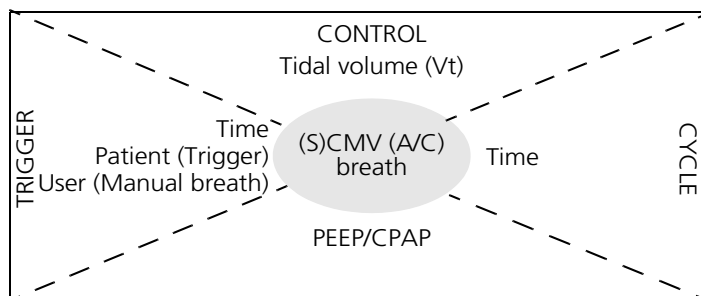

Figure B-1. (S)CMV (A/C) mode characteristics
The (S)CMV (A/C) mode provides volume-controlled mandatory breaths only. The tidal volume (V_t) setting defines the delivered volume (Figure B-1). The Rate and breath timing settings (see Section H.5) define the breath cycle timing. Breaths can be triggered by the ventilator, patient, or user.